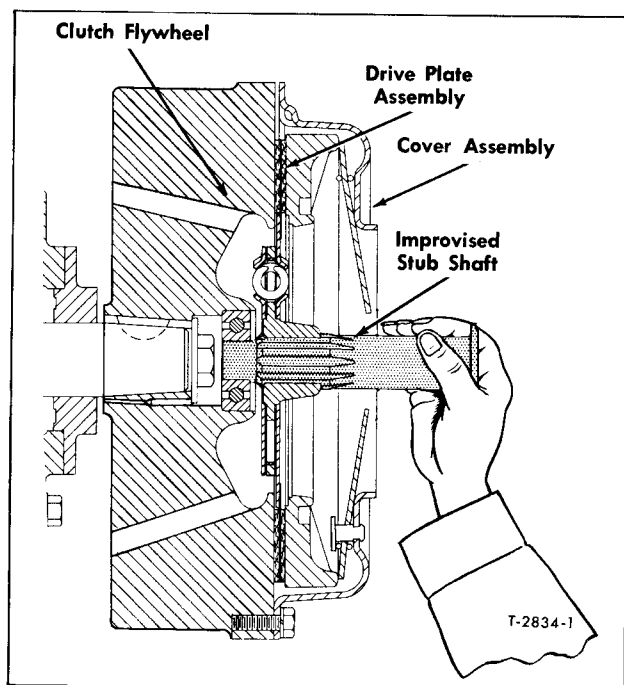

Figure 59—Using Improved Shaft For Installing Clutch
IMPORTANT: One special tool, which can be improvised locally, is necessary for making these replacements. **DO NOT ATTEMPT TO MAKE REPLACEMENTS UNLESS THIS TOOL IS AVAILABLE.** Tool is used for holding drive plate in alignment when installing cover assembly to clutch flywheel. Cut off a portion of an old clutch shaft at a point shown in figure 59. This part can also be made up from an old Chevrolet mechanical transmission main drive (clutch) gear.
2. Using improvised stub shaft as shown in figure 59, insert shaft into splines of drive plate and then into pilot bearing within clutch flywheel.